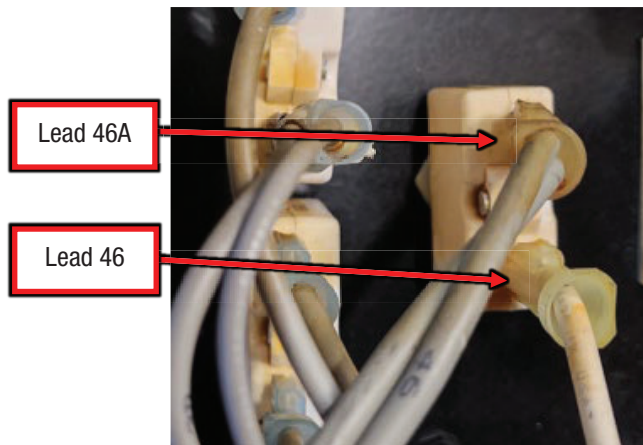

Figure F.2
A.2. Label and disconnect the following connections on CB9, refer to Figure F.2.